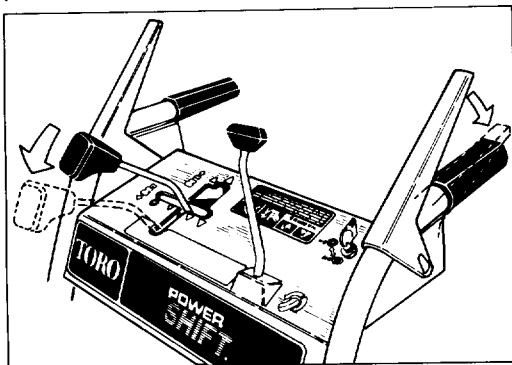

Figure 15
2. To move wheels to front or rear position, move shift control fully forward to Power Shift position and hold (Fig. 15).
3. Fully engage traction drive lever to move wheels into Power Shift position (Figs. 15 & 16).